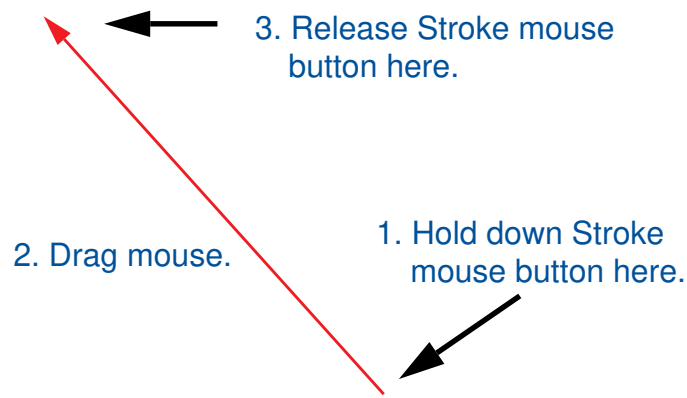

Figure 1-22. View All Stroke
3. View all of the card ejector by using the View All stroke anywhere in the edit window, as shown in Figure 1-22.